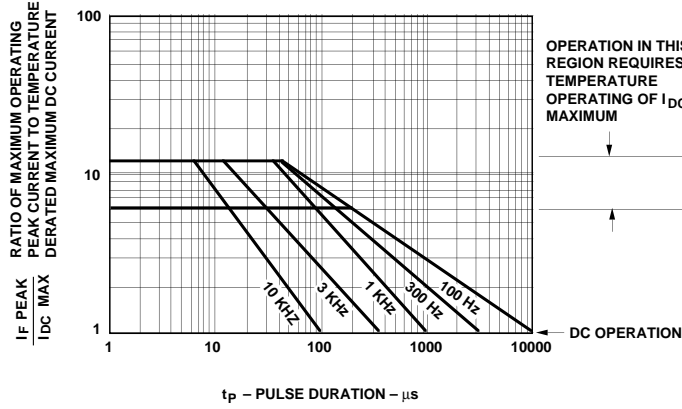

Figure 1. Maximum Tolerable Peak Current vs. Pulse Duration - Red.
- See Figure 1 to establish pulsed conditions.